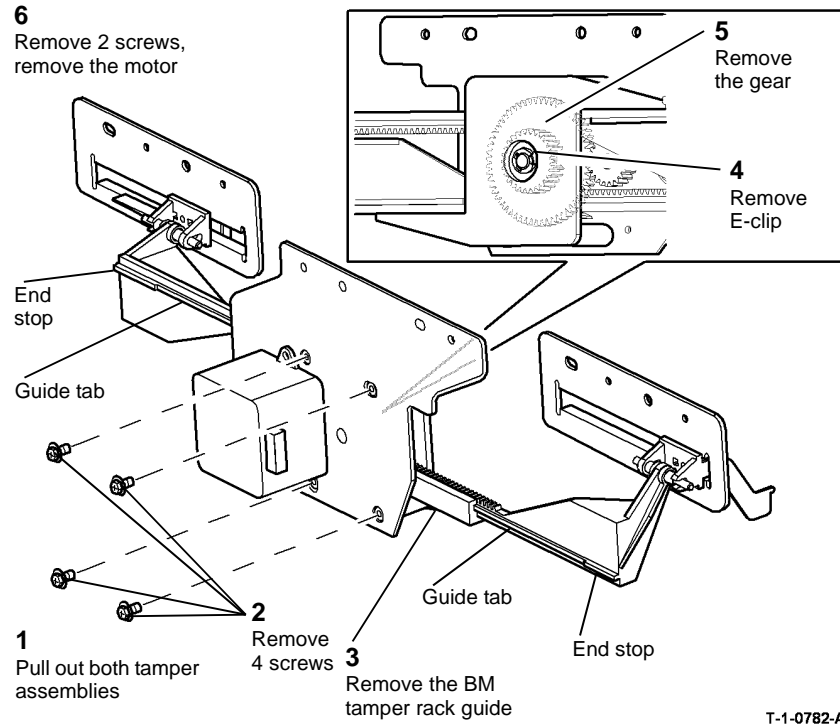

Figure 2 Dismantling the tamper assembly
7. **Figure 2**, remove the front and rear tamper assemblies. Also remove the tamper gear and tamper motor.
- a. Align the guide tabs on both tamper racks with the slots in the BM tamper rack guide. Refer to **Figure 2**.